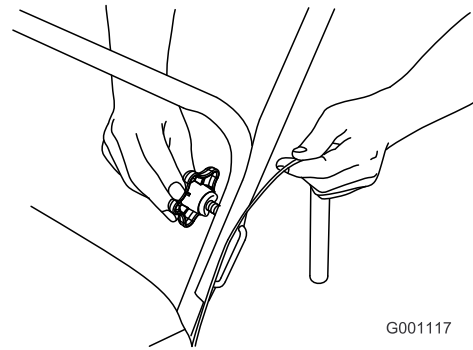

Figure 5
4. Fully insert the handle bolts (Figure 5).
Important: Ensure that you do not pinch the control cable (Figure 5).